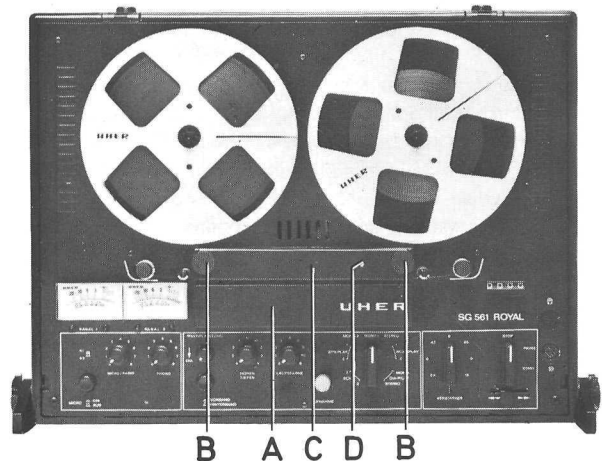

Fig. 12
9.4 Changing UHER Tape Head Assembly Z 345 or Z 346 (Fig. 12)
1. Pull front cover cap (A) up and off.
2. Loosen the two knurled nuts (B) by rotating to left, and remove.
3. Pull tape head mount (C) straight up and off.
9.5 Azimuth Adjustment of Playback Head (Fig. 12)